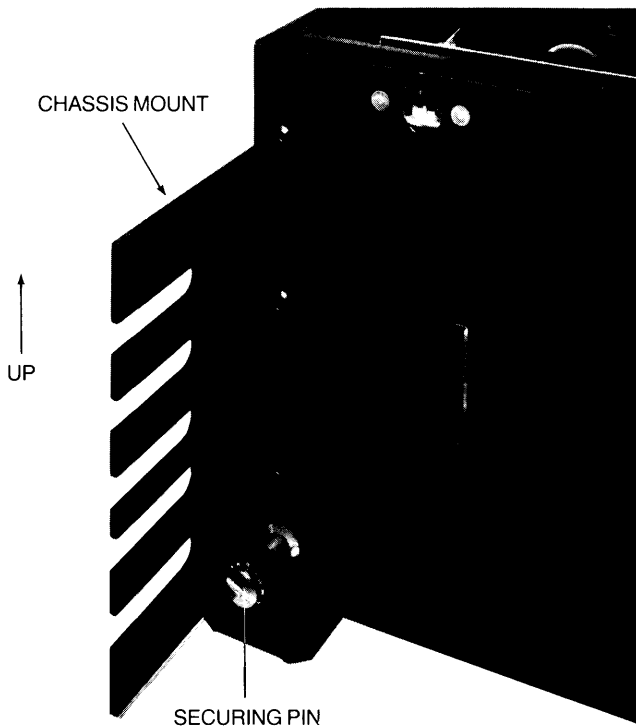

Figure 4-3. Securing Chassis
2. Slide the DSD 430/470 chassis on the mounts until the two bullets at the rear of the chassis mounts engage the corresponding holes in the rear of the chassis as shown in figure 4-3.